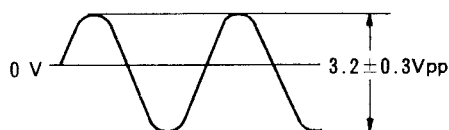

Fig. 6-1
- The waveform shown in Fig. 6-1 should be at terminal LFO (TP23) when LFO selector switch (PSW22) is set at " ~ ". Adjust VR9 so that $100 \pm 2\text{Hz}$ be read when LFO SPEED control is set at F.